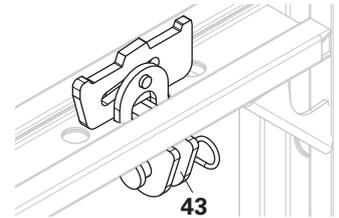

Fig. A6.02
1. Attach Push-Pull Prop (40) or Kicker to the connecting plate (43) using Pins and Cotter Pins (44). (Fig. A6.02)